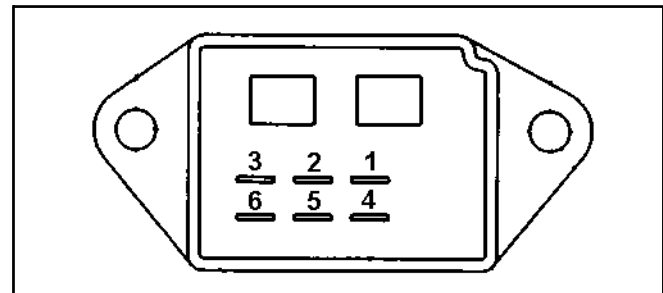

Figure 14
* **NOTE:** If multimeter does not have a diode scale, this test can not be done. This is not a problem if powered tests are done. Powered test must be done to check out relays (Figure 14).